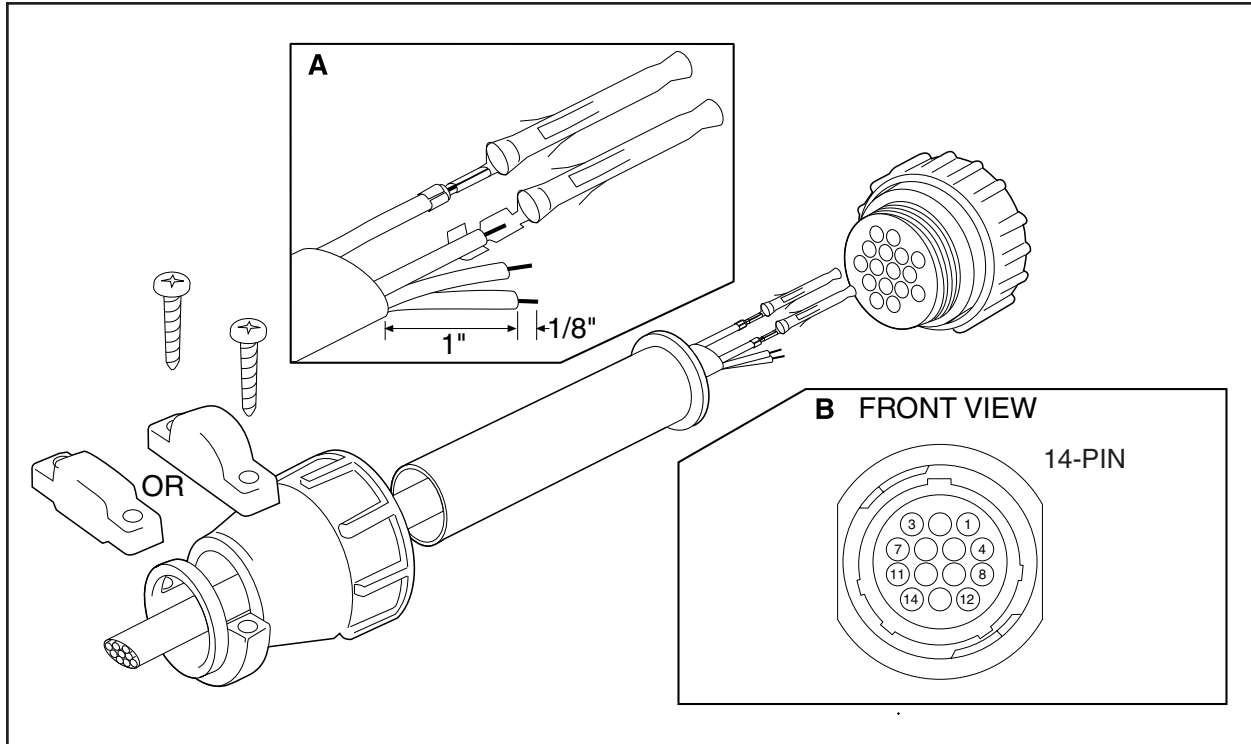

Figure 1. Output Connector Assembly Diagram
Assemble the connector parts according to the instructions below. Refer to Figure 1 during assembly. For best results use an AMP style crimper when making the wire-to-pin connection.
2. Prepare the wires from the conductor cable as follows. Refer to Detail A in Figure 1.
3. Slide the connector pins into the appropriate holes in the connector body until they snap into place. Refer to Table A for output connector pin assignments, depending on model and options. Refer to Detail B in Figure 1 for the pin arrangement.